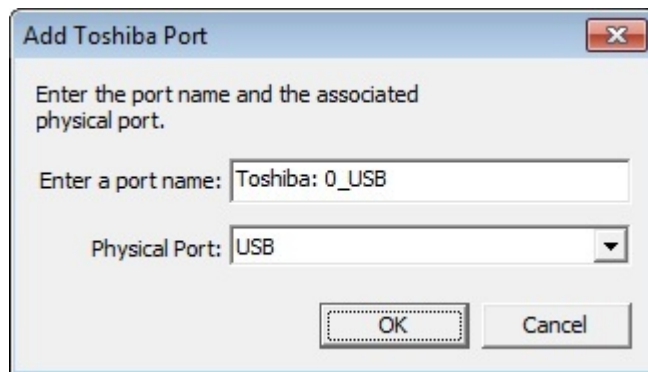

Figure 20. Add Toshiba Port window
10. During the installation process, the Add Toshiba Port window opens; see Figure 20. Select the related physical port and click **OK** to continue the installation.